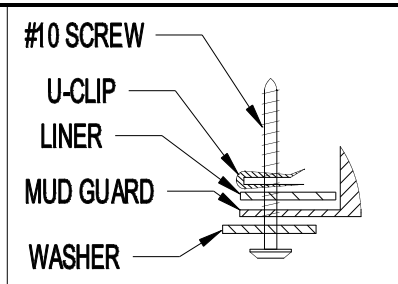

Figure 2
5. Install a #10 Screw thru a Fender Washer thru the mud guard and into the U-Clip placed on the backside of the fender liner at location C. NOTE: DO NOT clip the u-clip over the fender liner (Figure 2).